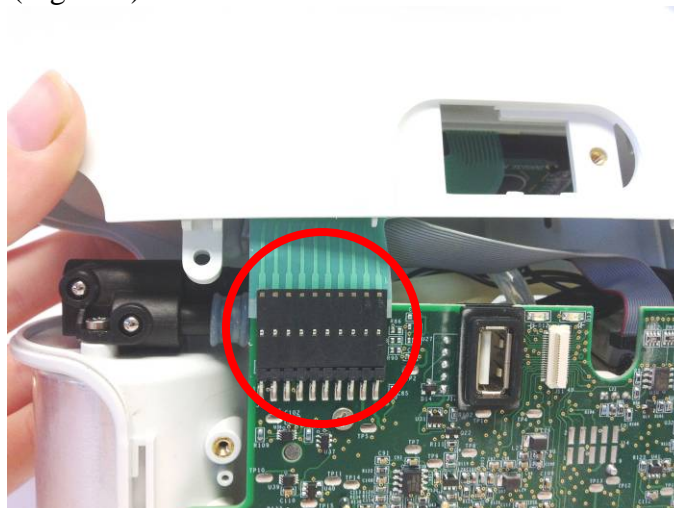

Figure 7: Unplug UIP cable from motherboard
2. Gently pull upward on the user interface panel to lift it about a centimeter off the device, being careful not to pull on the cables that are connected to the user interface panel. With the UIP cable connector exposed on the motherboard, gently unplug the UIP cable from the motherboard (Figure 7).